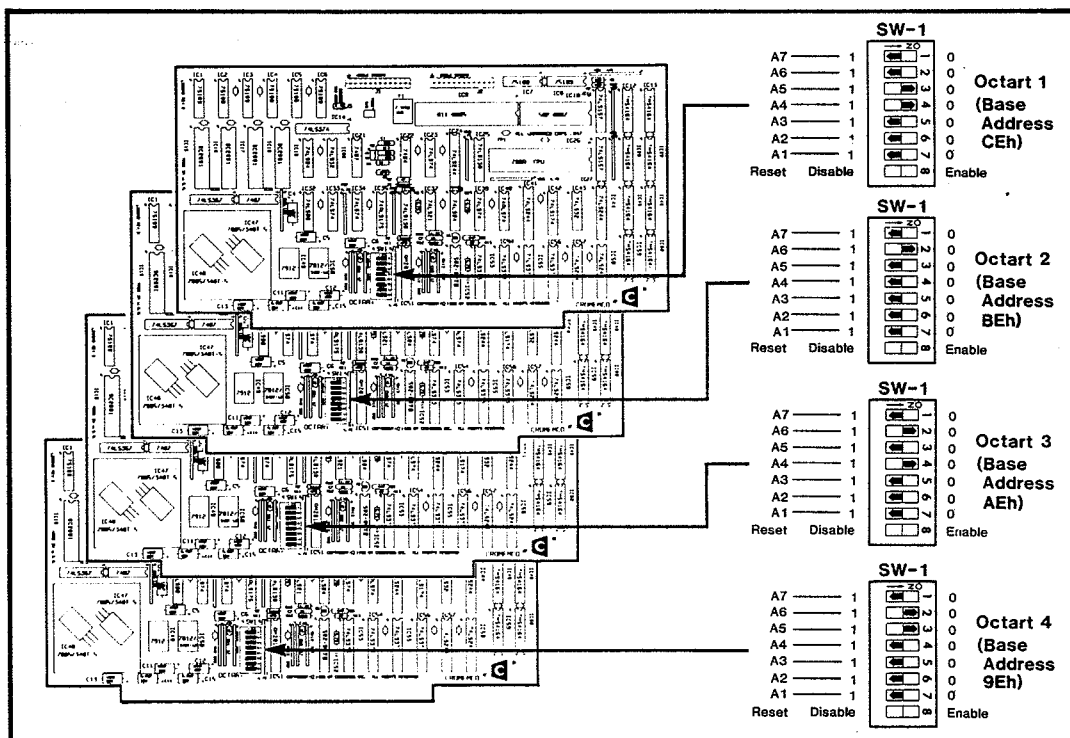

Figure 1-2: OCTART SWITCH SETTINGS
3. Set switch SW-1 to select an S-100 base I/O port address for the board, as shown in Figure 1-2.
Figure 1-2 shows the location of switch SW-1 and the appropriate switch settings for up to four Octart boards. Octart boards 1, 2, 3, and 4 should have base port addresses CEh, BEh, AEh, and 9Eh.